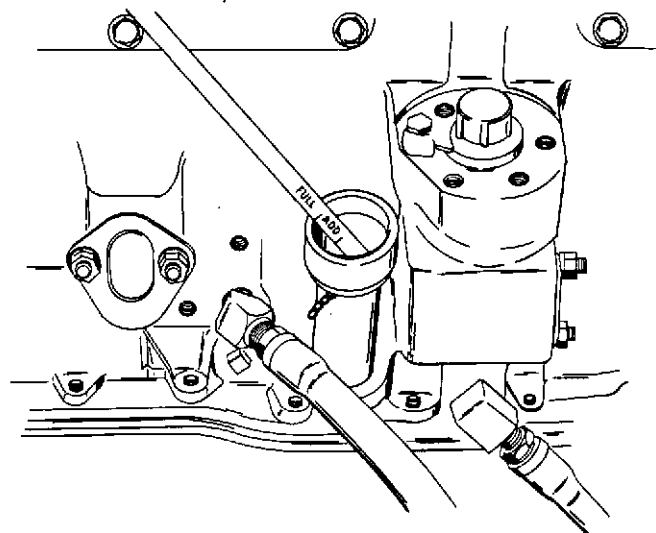

Figure 3-1. Checking Engine Oil Level
c. Refill the crankcase to the FULL mark on the bayonet gauge (figure 3-1) with a preservative lubricating oil meeting requirements of MIL-L-21260 (Gulf No-Rust Engine Oil, Grade No. 1 or 2; Shell Ensis MIL-L-21260, Code 66200 or Code 66202; or equivalent). Use SAE10 or SAE30, whichever viscosity is necessary to suit the climatic conditions.